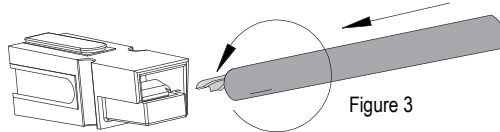

Figure 3
8. To remove auxiliary housings, punch out retaining pins from bottom of the connector housing with an 0.06 inch (1.5mm) diameter steel rod or pin driver. Pull auxiliary housings out of the SBE/SBX connector housing. Use contact insertion-extraction tool kit (part number 111038G2), to remove contacts from auxiliary housings see Figure 3.